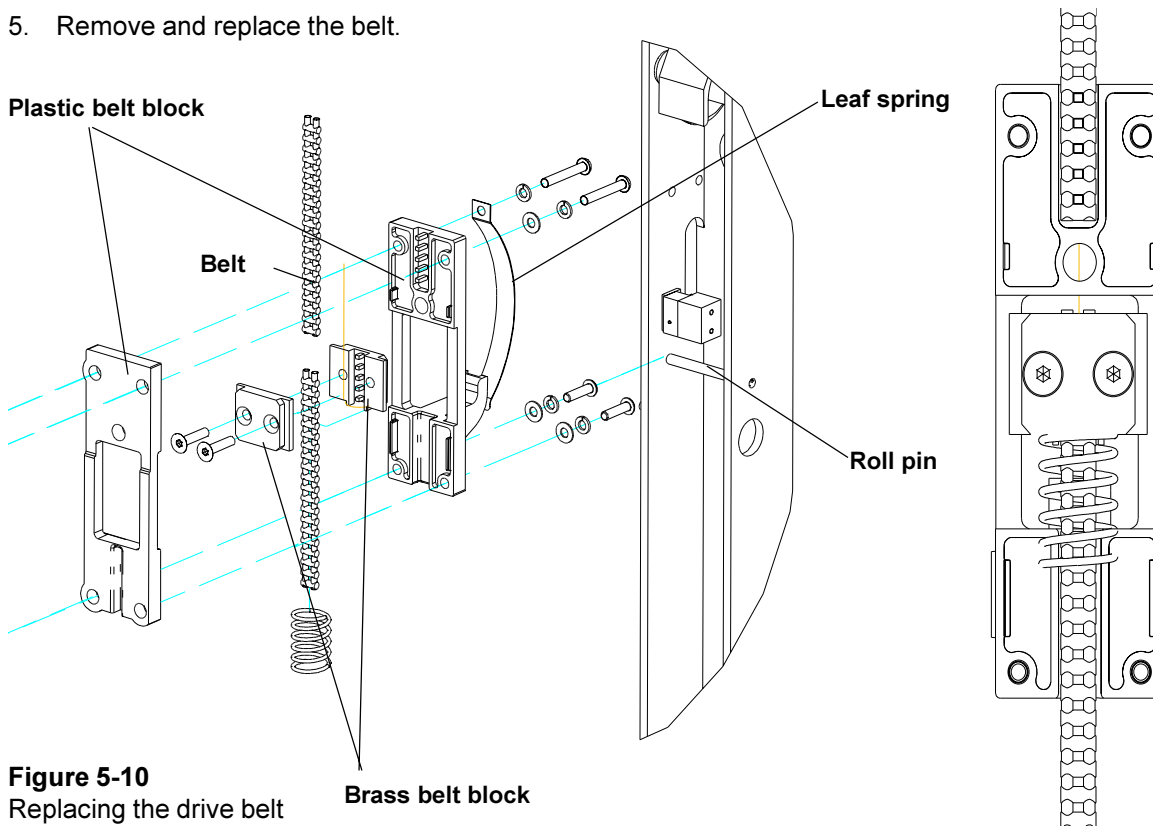

Figure 5-10
5.235 Replacing the drive belt (Figure 5-10)